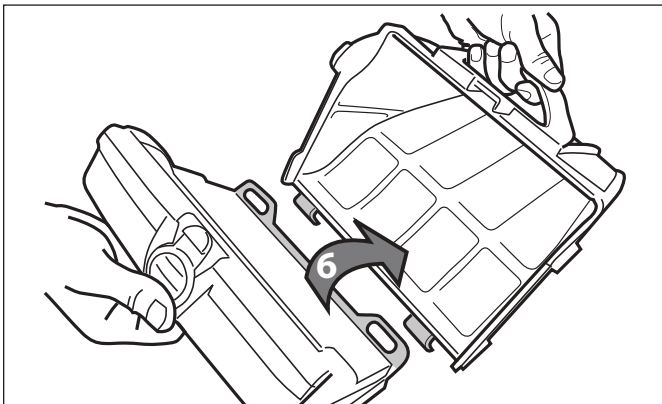

Figure 26. Remove Filter Canister
8. Separate the filter canister from the filter support (6), as shown in Figure 26.